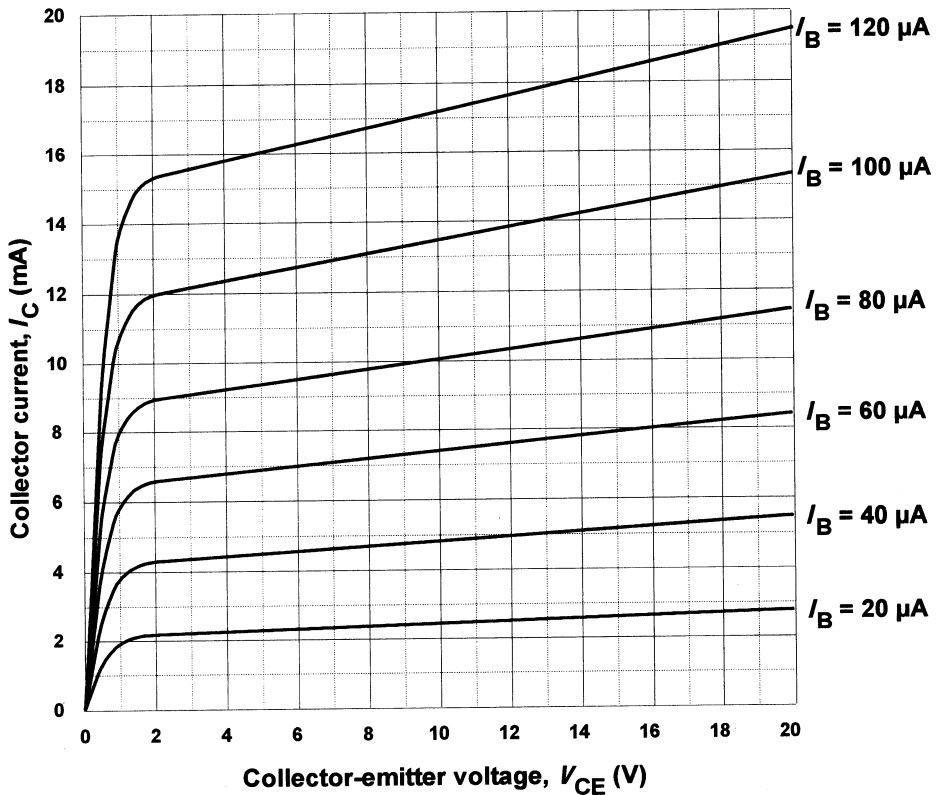

Figure 7.45
- 7.8 The output characteristics of a bipolar transistor are shown in Fig. 7.45. If this transistor is used in an amplifier circuit operating from a 12 V supply with a base bias current of $60\text{ }\mu\text{A}$ and a load resistor of $1\text{ k}\Omega$, determine the quiescent values of collector-emitter voltage and collector current. Also determine the peak-peak output